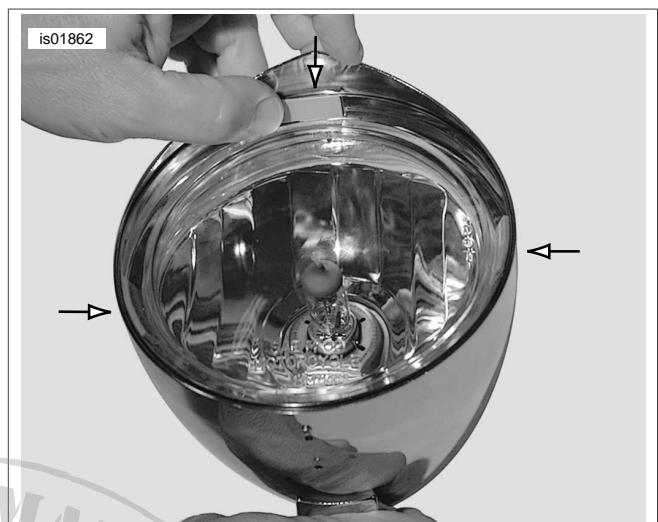

Figure 15. Place Two-Sided Tape on Chrome Trim Ring
4. See Figure 15. Cut three 1/4 x 1-inch strips of two-sided tape and place at equal distance around the chrome trim ring.